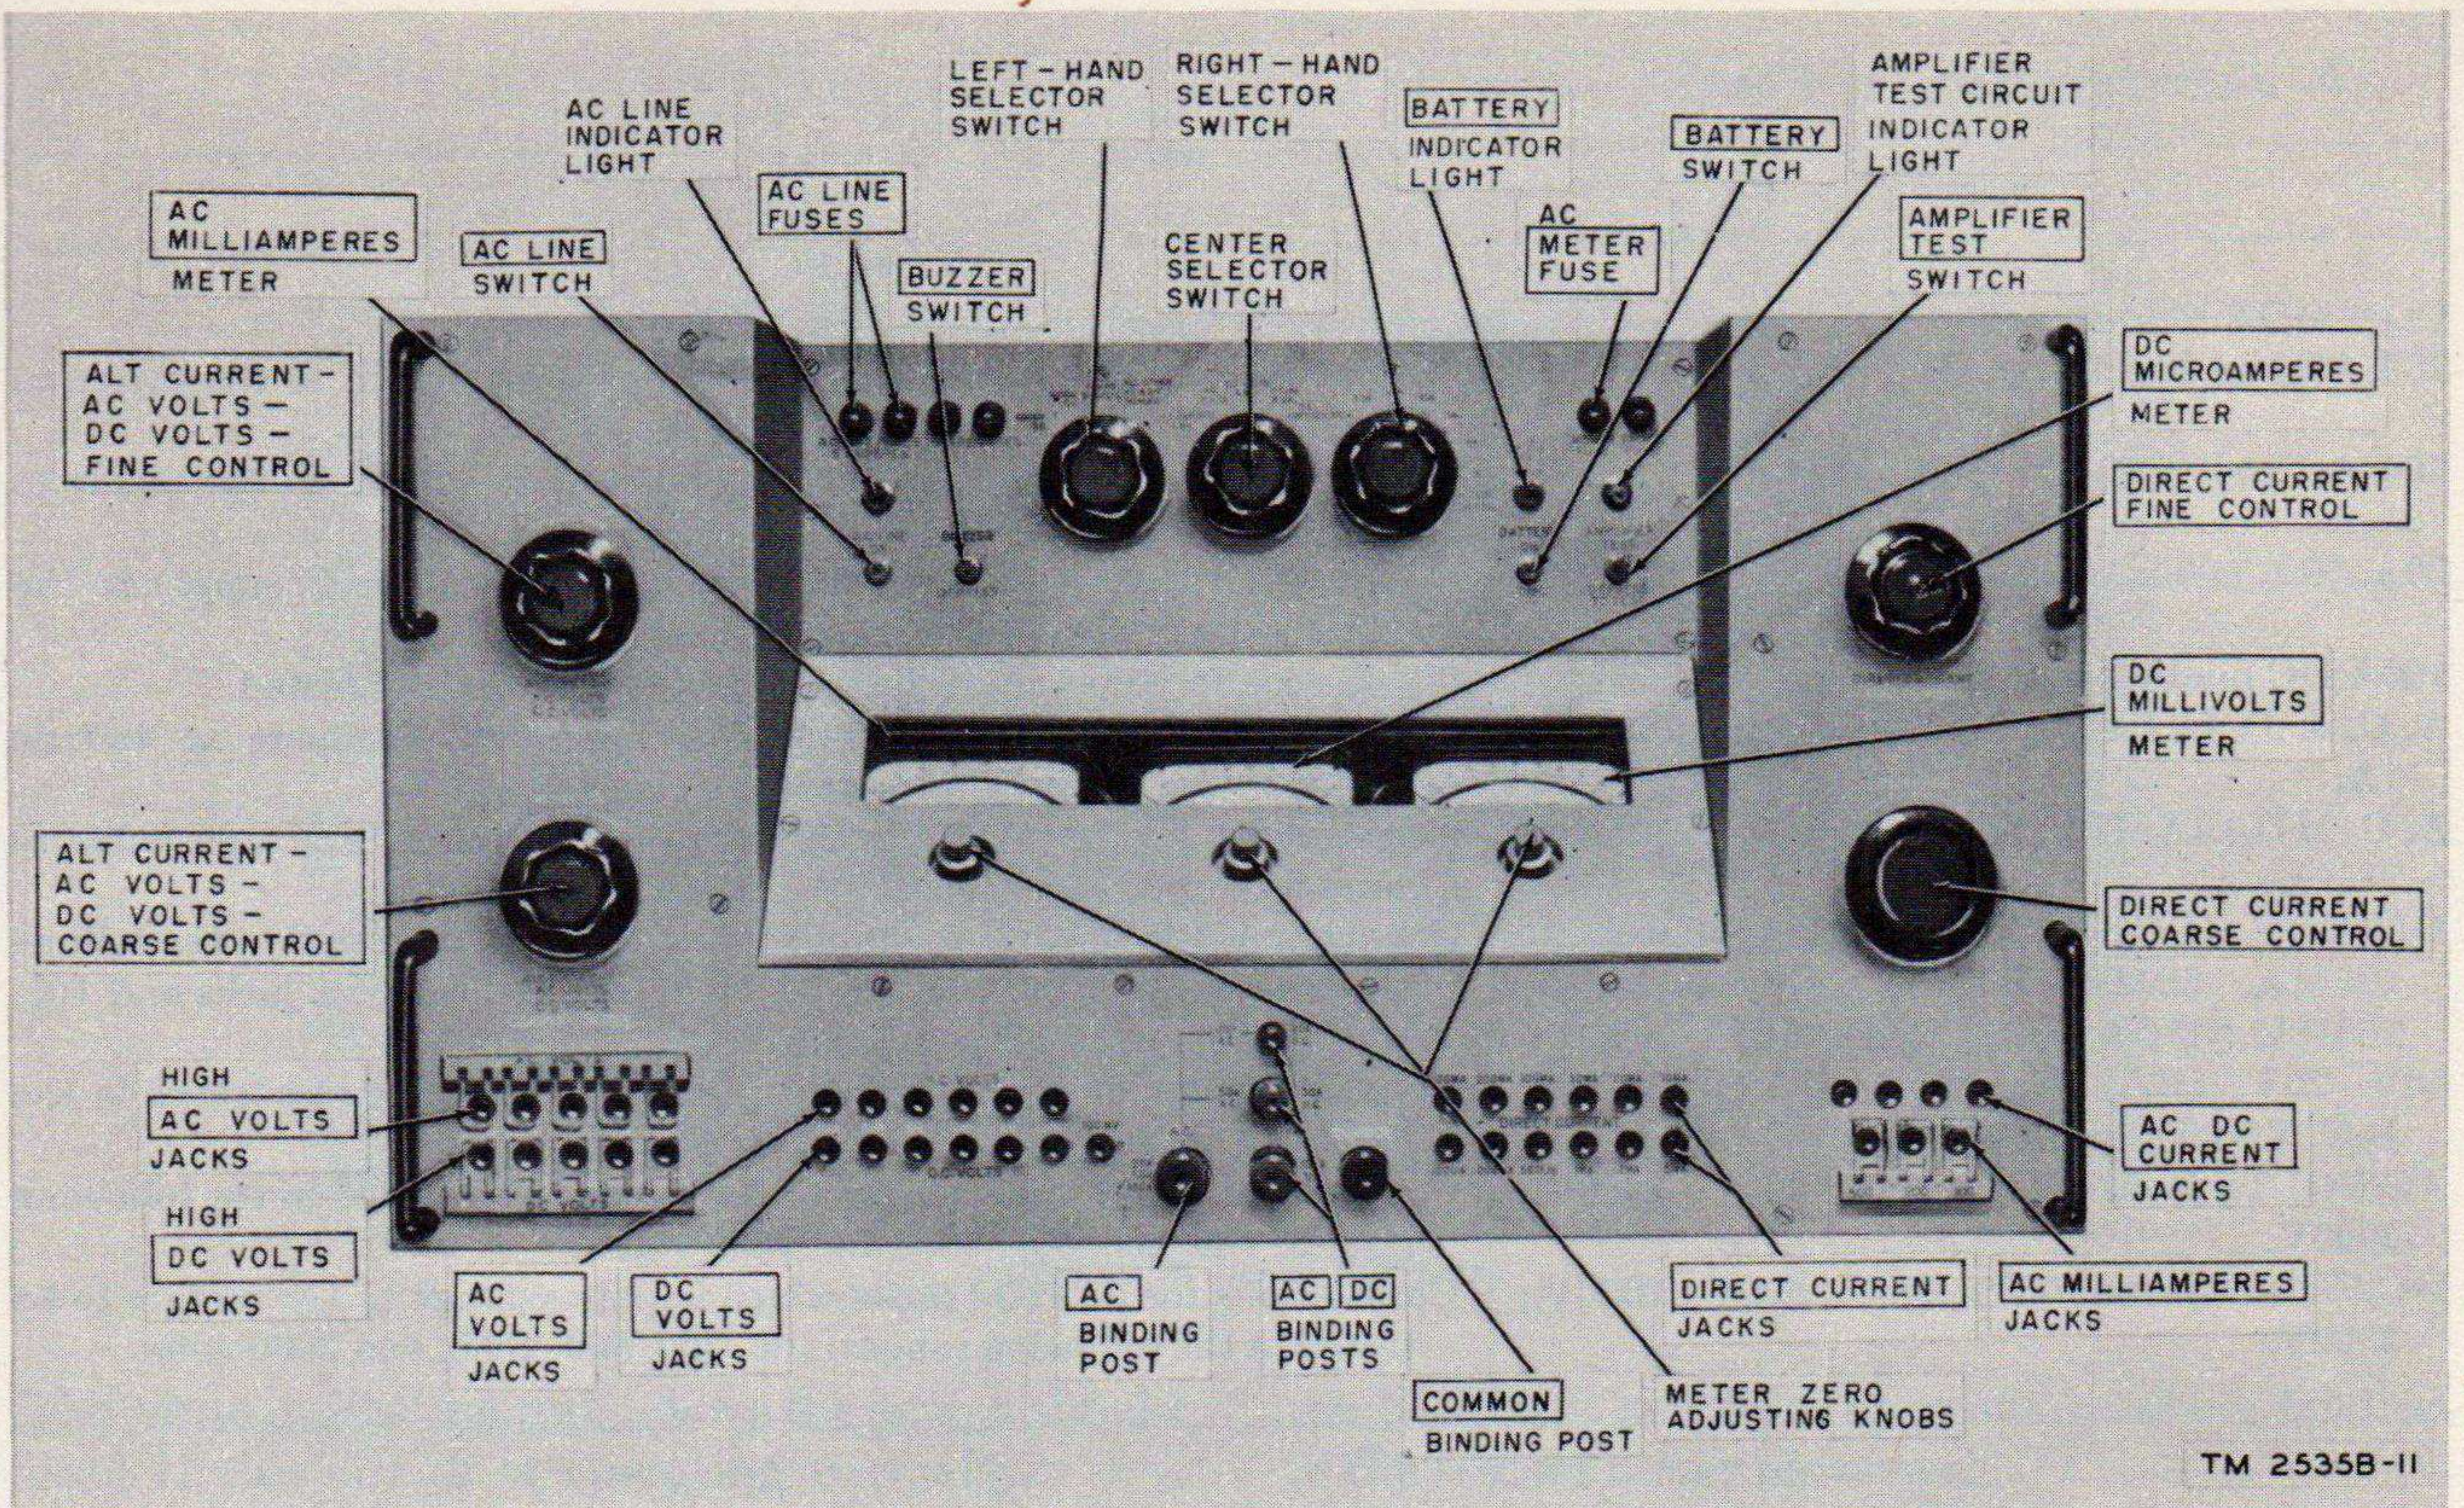

Figure 7. Test set, front panel.
a. Move the AC LINE switch (fig. 7) to the OFF position.
a. Haphazard operation or improper setting of switches and controls (fig. 7) of the test set can damage the equipment. For this reason, it is important to know the function of every switch and control on the test set.
Three precision meters mounted on the test set (fig. 7) are used to cover all ac and dc voltage and current ranges. The meters and their associated ranges are listed below.
Before connecting the meter under test to the test set and before operating the equipment, make the following preliminary adjustments on the test set (fig. 7).